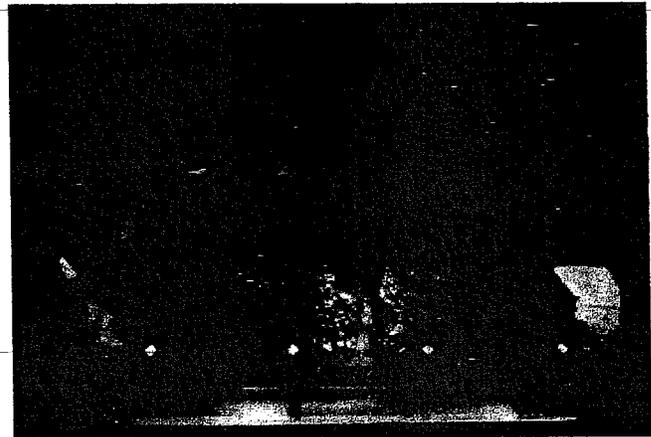

Figure 8.8 Place Top Left Log
- Place top left log on the indentations in the front left log and back log as shown in Figure 8.8.
- Place the top right log on indentations in the front right log and back log as shown in Figure 8.8 .